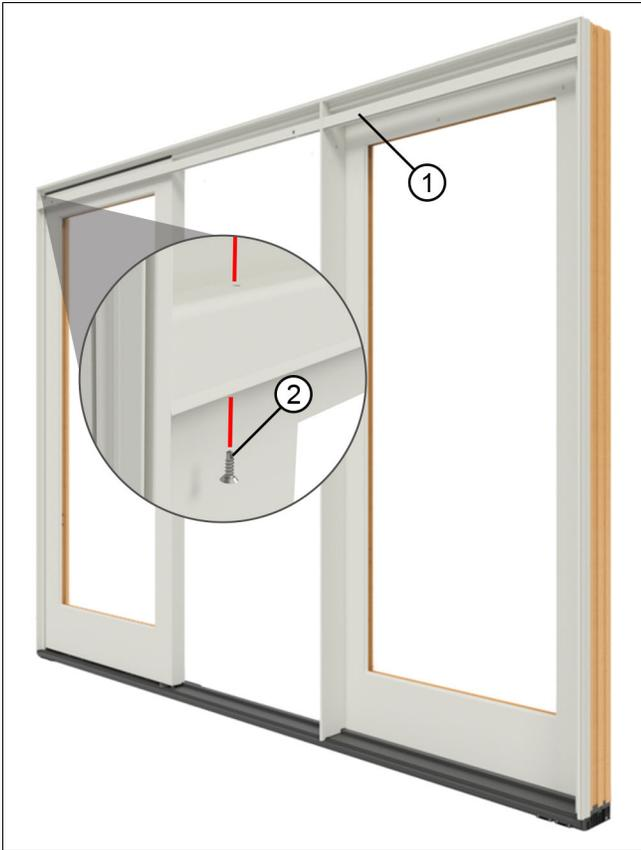

Figure 55
**4. Install the Screen Track (if not done already):** On OXXO configurations, the screen track will come in two parts (butt together). OXO configurations also come in two parts separated by the mull post. Install with #7 x 3/8" self tapping screws provided. See Figure 55.